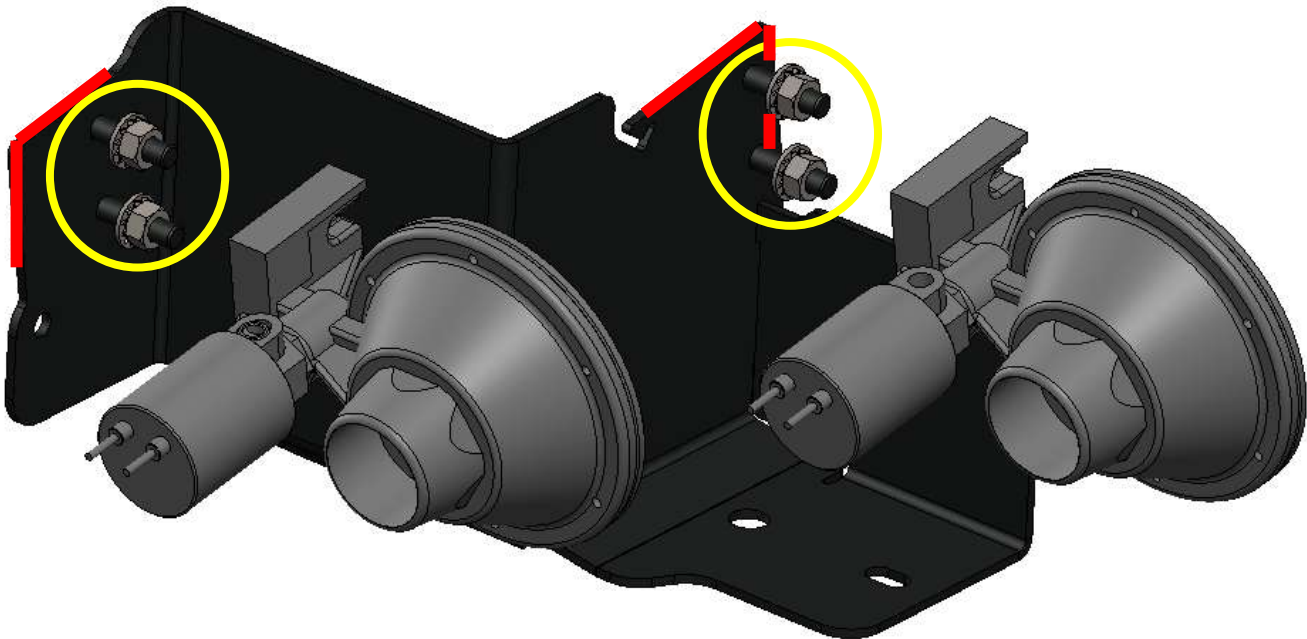

Figure 3 Horn Driver Installation onto JL-301
- 8.1.1. Using JL-301, install horn drivers onto studs, following Figure 3, using Hardware #3, #4, & #5. Tighten completely.
NOTE: Make sure edges of horn drivers are parallel to edges of brackets shown in Figure 3 in red.
NOTE: Make sure solenoid orientation matches Figure 3.